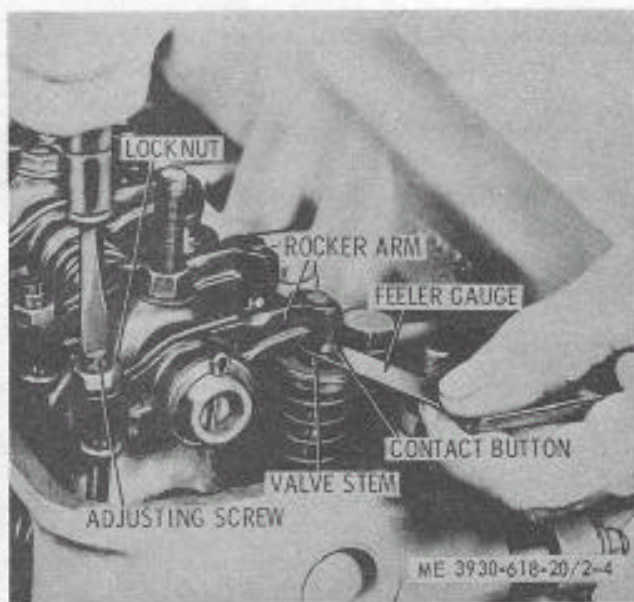

Figure 2-4. Adjusting valve clearance.
(1) Operate the engine until it reaches normal operating temperature.
(2) Stop the engine and disconnect the high tension wire from the ignition coil to prevent accidental starting.
(3) Thoroughly clean the valve cover and surrounding area and remove the valve cover.
(4) Crank the engine with the starter motor until both valves of No. 1 cylinder are closed and the push rods are at the lowest position on their respective cams.
(5) Using a flat feeler gage (fig. 2-4) of 0.012 inch thickness, check the clearance between the exhaust valve stems (engine hot) and their respective rocker arms. The feeler gage should pass through with a slight drag. Repeat this process on the intake valves using feeler gage thickness of 0.010.
(6) If adjustment is necessary, loosen the locknut and obtain proper clearance by turning the adjusting screw. Turning the adjusting screw clockwise will decrease the clearance; counterclockwise will increase the clearance.
(7) Tighten the locknut and then recheck the clearance to make certain no change occurred.
(8) Repeat the above procedure on the remaining cylinders following the firing order of the engine (1-5-3-6-2-4).
(9) Connect the high tension wire to the ignition coil and start the engine.
(10) Run the engine at operating temperature, pass the feeler gage back and forth between the exhaust rocker arms and valve stems and check for 0.012-inch thickness. A slight drag will be felt, followed by a tightening which will momentarily prevent moving the feeler gage. Repeat this process for the intake valves and check for 0.010-inch thickness. Stop the engine and correct any improperly adjusted clearances. Repeat step (10) above.
(11) Install the valve cover, making certain that the cover gasket is in good condition and positioned properly to prevent oil leakage.